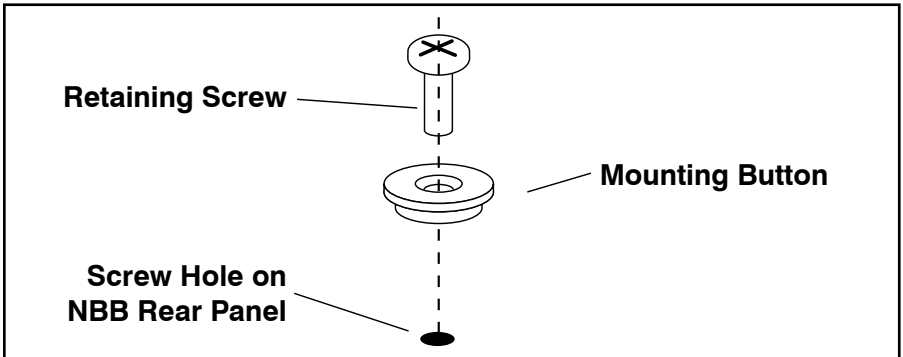

Figure 2: Attaching Mounting Buttons to the NBB Unit
2. Install two Mounting Buttons in the holes selected in Step 1 above. Refer to Figure 2 below for further details regarding assembling the Mounting Buttons and attaching them to the NBB unit.